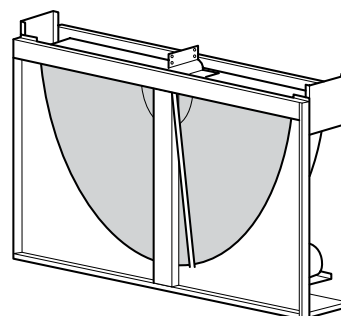

Fig. 5
- B. The top part with the rotor half in sections, with transport protection and lifting lugs, Fig. 5.
- C. The bottom half with a ready assembled rotor half and drive motor, Fig. 5.